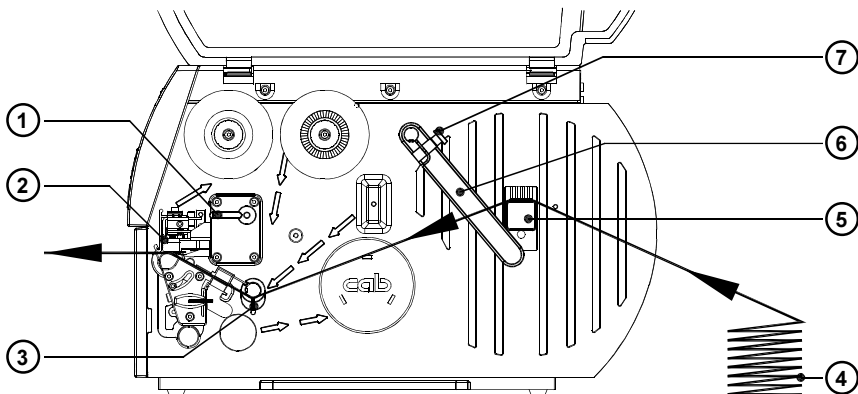

Fig. 7i Loading Fanfold Labels
2. Loosen the knurled screw (7) and slide the media guide (6) to its outermost position. Rotate the media guide (6) downwards past the media retainer (5).
3. Place the stack of media (4) behind the printer. Make sure the labels on the media strip are facing up.
4. To raise the printhead assembly (2), rotate the lever (1) clockwise until it stops.
5. Slide the media guide ring (3) outward, allowing enough clearance for the media's width when loaded.
6. Slide the media strip through the printer as shown in figure 7i.
8. Slide the media guide (6) inward until it lightly touches the side of the media strip. Rotate the media guide (6) upwards against the media retainer (5) and tighten the knurled screw (7).
9. Slide the media guide ring (3) inward until it lightly touches the side of the media strip.
10. Lower the printhead by rotating the lever (1) counter-clockwise until it stops.